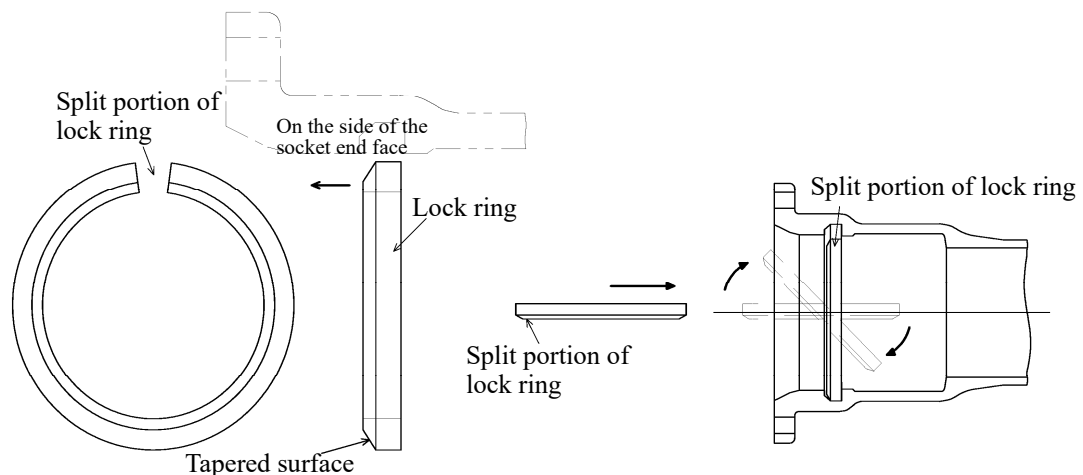

Figure 5 How to set the lock ring into socket
- (1) As illustrated in Figure 5, set the lock ring so that the tapered surface will be located on the side of the socket end face.